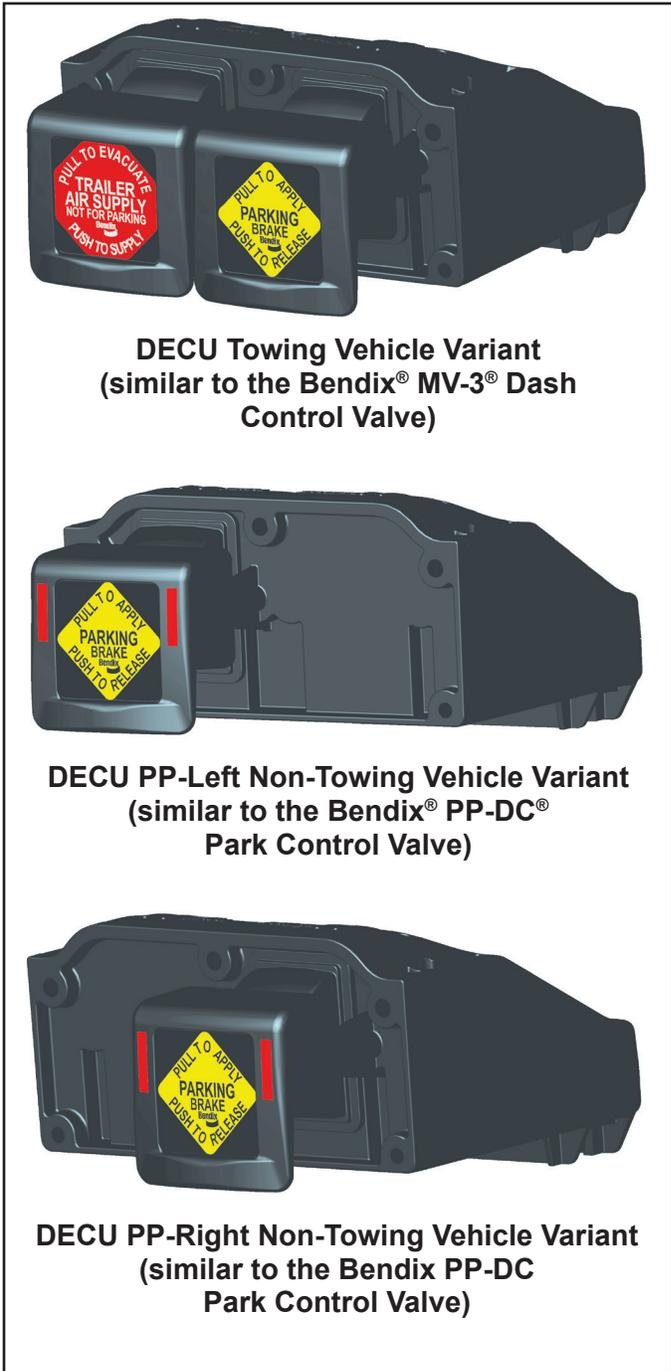

Figure 3 - DECU Variants
- The DECU is an Electronic Control Unit (ECU) with an integrated Peripheral Human-Machine Interface (pHMI) with a push-pull switch for the power unit (yellow) channel, and if needed, a similar push-pull switch for the towed unit (red) channel. The DECU interprets switch motion into driver intent. Based on that input and other inputs from the vehicle (via discrete I/O or J1939 CAN), it activates solenoid valves to produce the desired pneumatic response. **NOTE:** Units may have various switch orientations (horizontal or vertical) and mounting brackets. *As shown in Figure 3*, the DECU PP variant is available in both PP-Right and PP-Left variants.